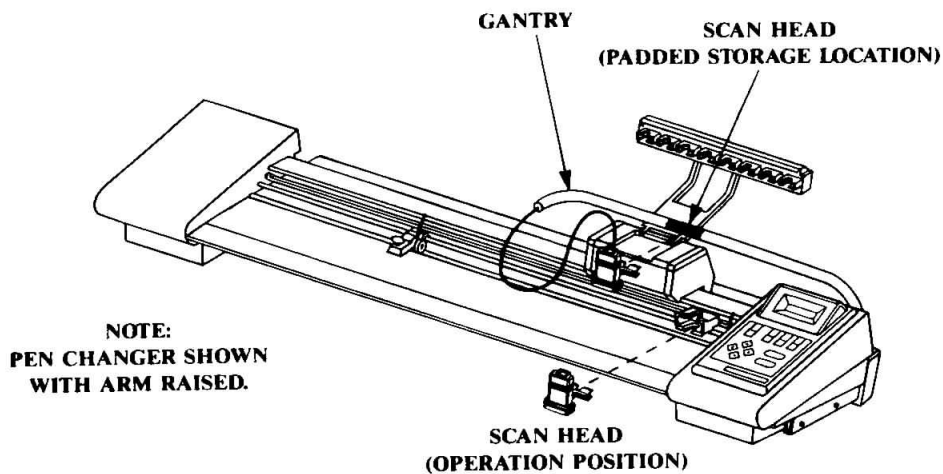

FIGURE 2-2. SCANNER ACCESSORY
- Model 128 Series SCAN-CAD scanner. This accessory allows the plotter to function as a large-format scanner. See Figure 2-2. Installation and operating instructions for the scanner are provided with the accessory.